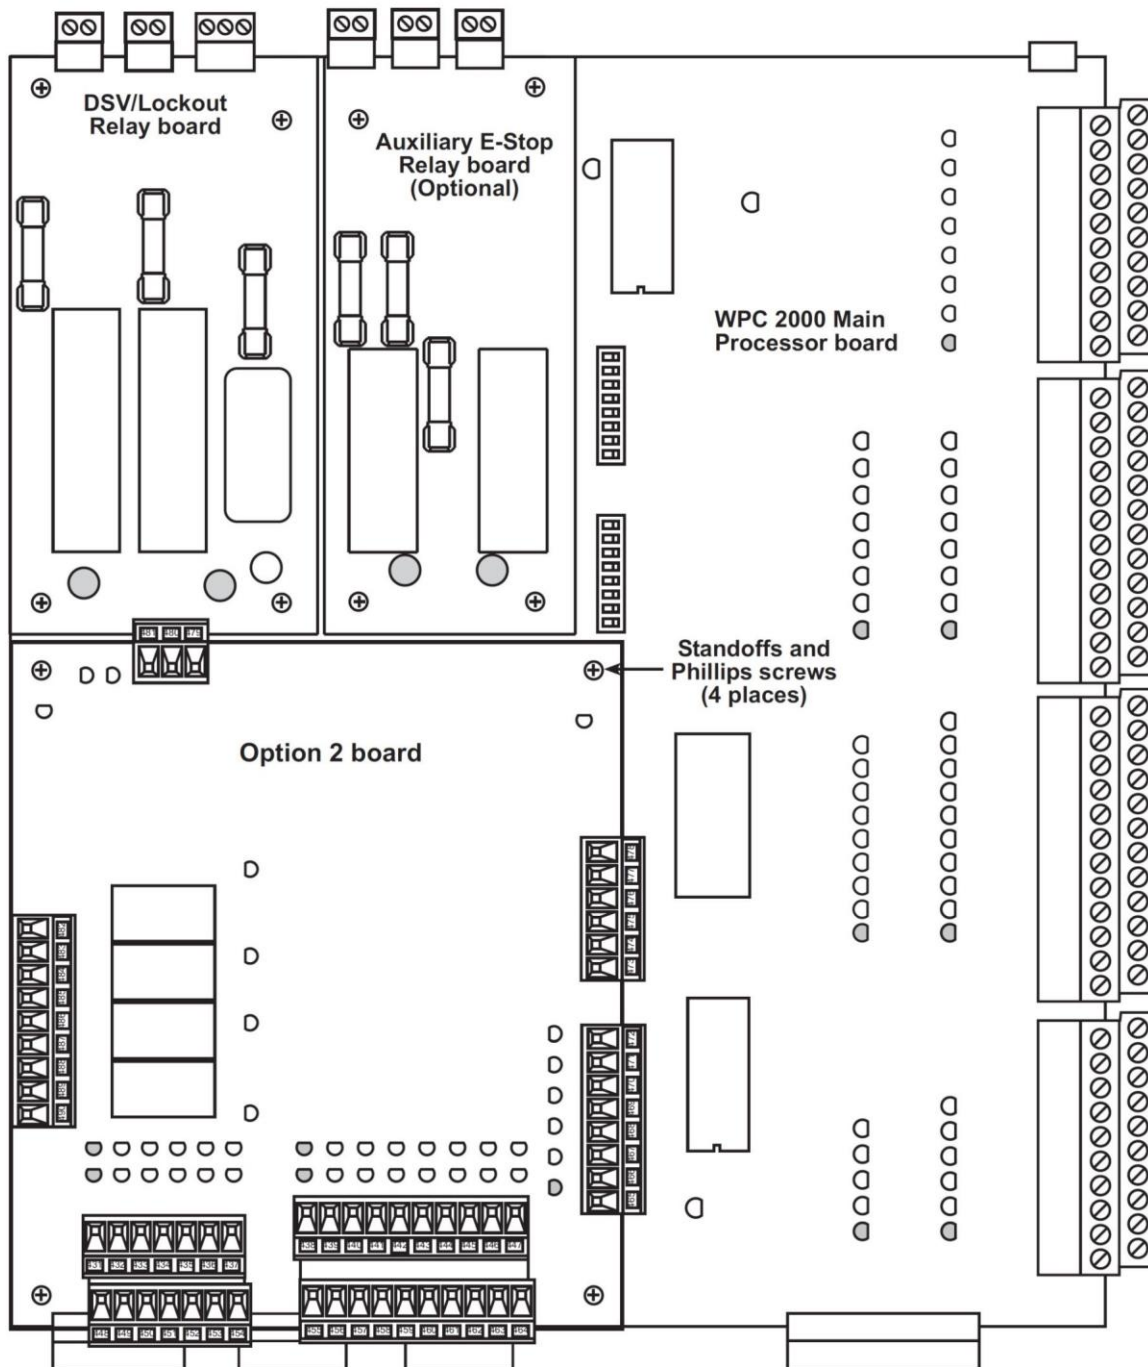

Figure 2-1. Option 2 Board Installed on WPC 2000 Main Processor Board
To install the WPC 2000 Option 2 board (see Figure 2-1, next page) perform the following steps:
6. Making sure you are grounded, align the holes in the four corners of the Option 2 board with the four standoffs on the WPC 2000 Main Processor board (refer to Figure 2-1 for correct placement of board), align the two connectors on the underside of the Option 2 board with their mating connectors on the WPC 2000 board, and slowly push the board down until both connectors are seated. Then screw the board down, using the Phillips screws provided.